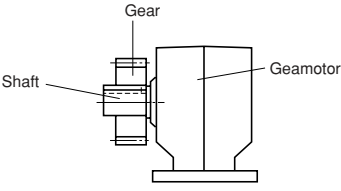
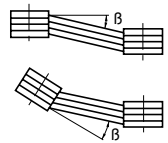

Fig.24
Fig.25
(2) When using a Chain Sprocket and Gear
- Install sprocket and gears so that their point of load application will be closer to the gearmotor side with respect to the length of the shaft. (Fig.24)
(3) When using a V-belt
- The parallelism and eccentricity (B) between two pulleys should be within 20° . (Fig25)